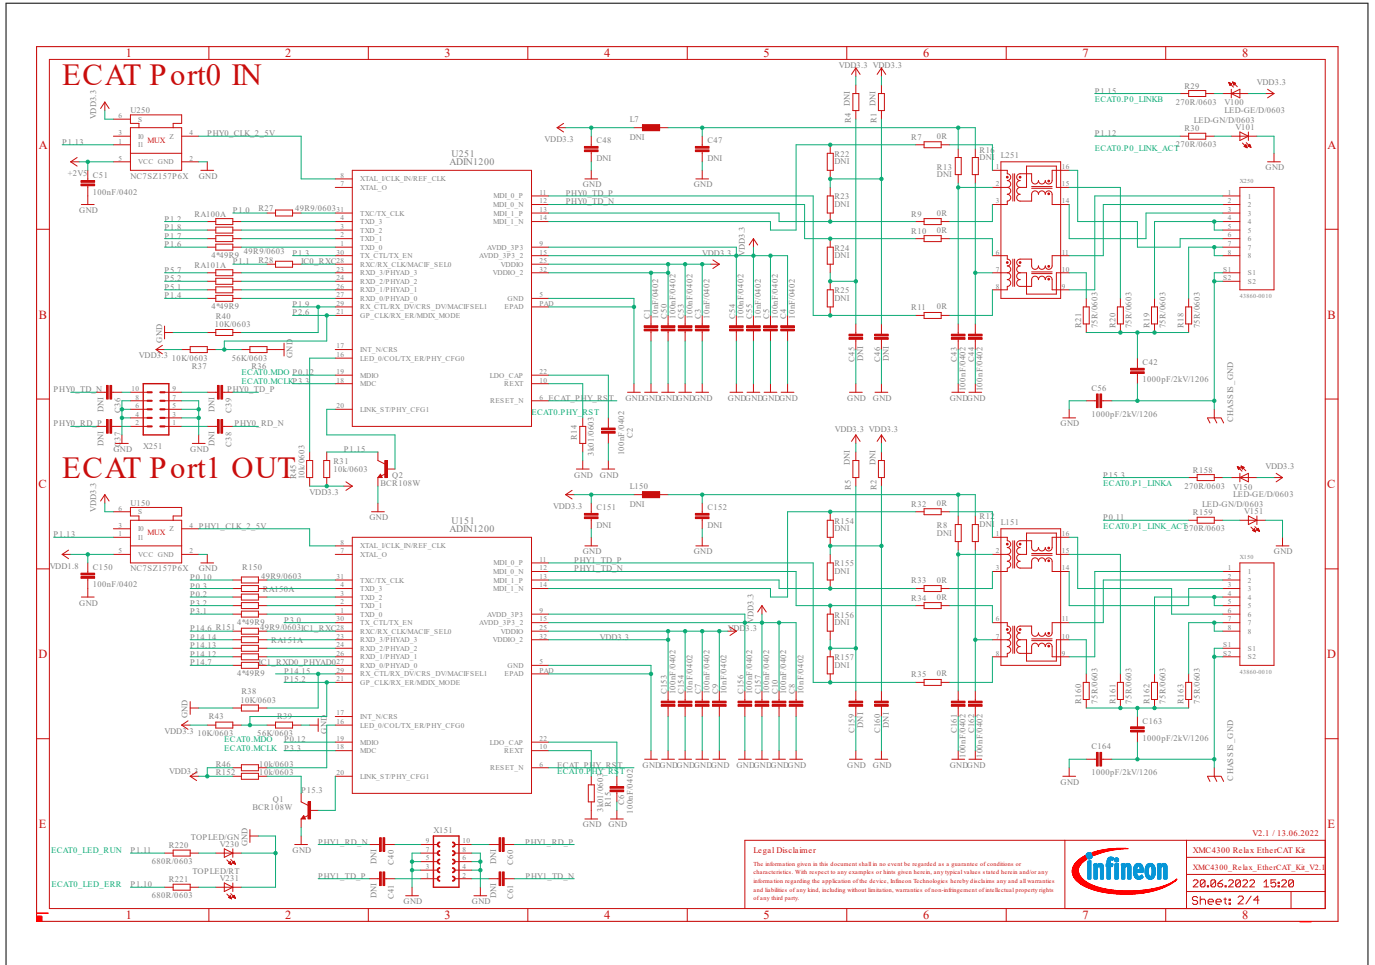

Figure 16 EtherCAT® Phys, Magnetics, Phy-2-Phy (See Revision 1.2)
- Figure 16 (See Revision 1.2)